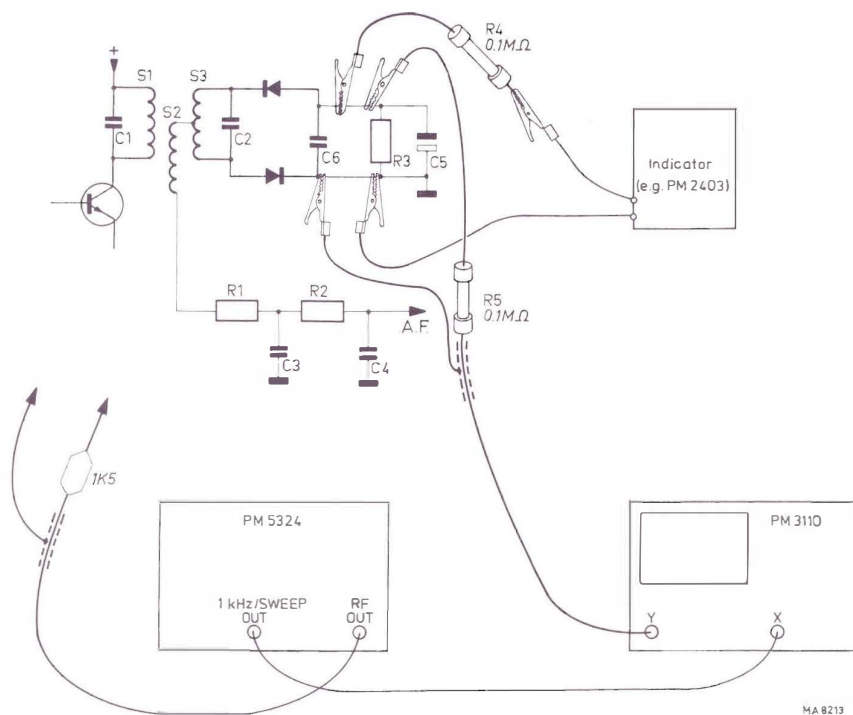

Fig. 16. Dynamic adjustment of an f.m. receiver
2.3.4.2.1. Connection of the measuring instruments (Fig. 16)
- Unsolder the electrolytic capacitor in the ratio detector (C5, Fig. 16).
- Solder the electrolytic capacitor (C5, Fig. 16) again.
- Connect the oscilloscope to C4/R2 (Fig. 16)
- Unsolder the electrolytic capacitor (C5, Fig. 16) again
- Solder the electrolytic capacitor (C5, Fig. 16) again
- Connect the indicator across resistor R3 of the ratio detector via a resistor of 0.1 M Ω (R4, Fig. 16).